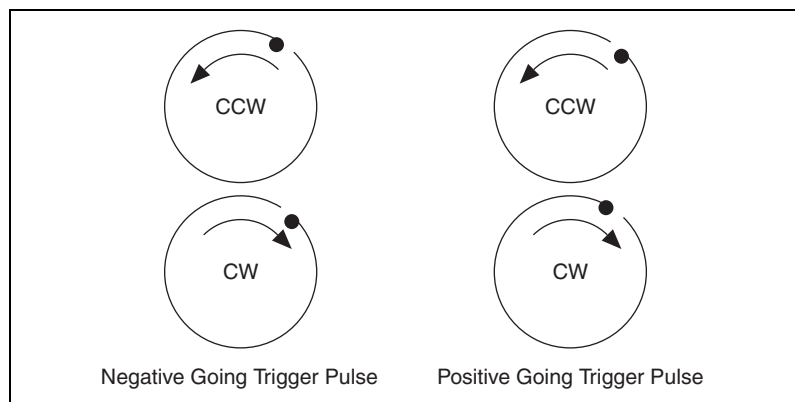

Figure 5-17. Variation of Blank-Bright Sequence with Pulse Type and Orbit Precession
Figure 5-17 illustrates the variation of blank-bright sequences with pulse type and the orbit procession direction, both clockwise (CW) and CCW.